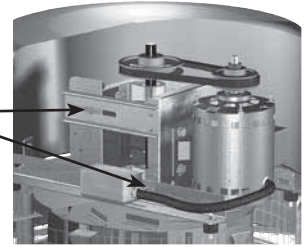

Figure 11
- For XREB units:** Belt tension can be adjusted by loosening four fasteners on the drive frame, see Figure 11. The motor plate slides on the slotted adjusting arms and drive frame angles in the same manner.